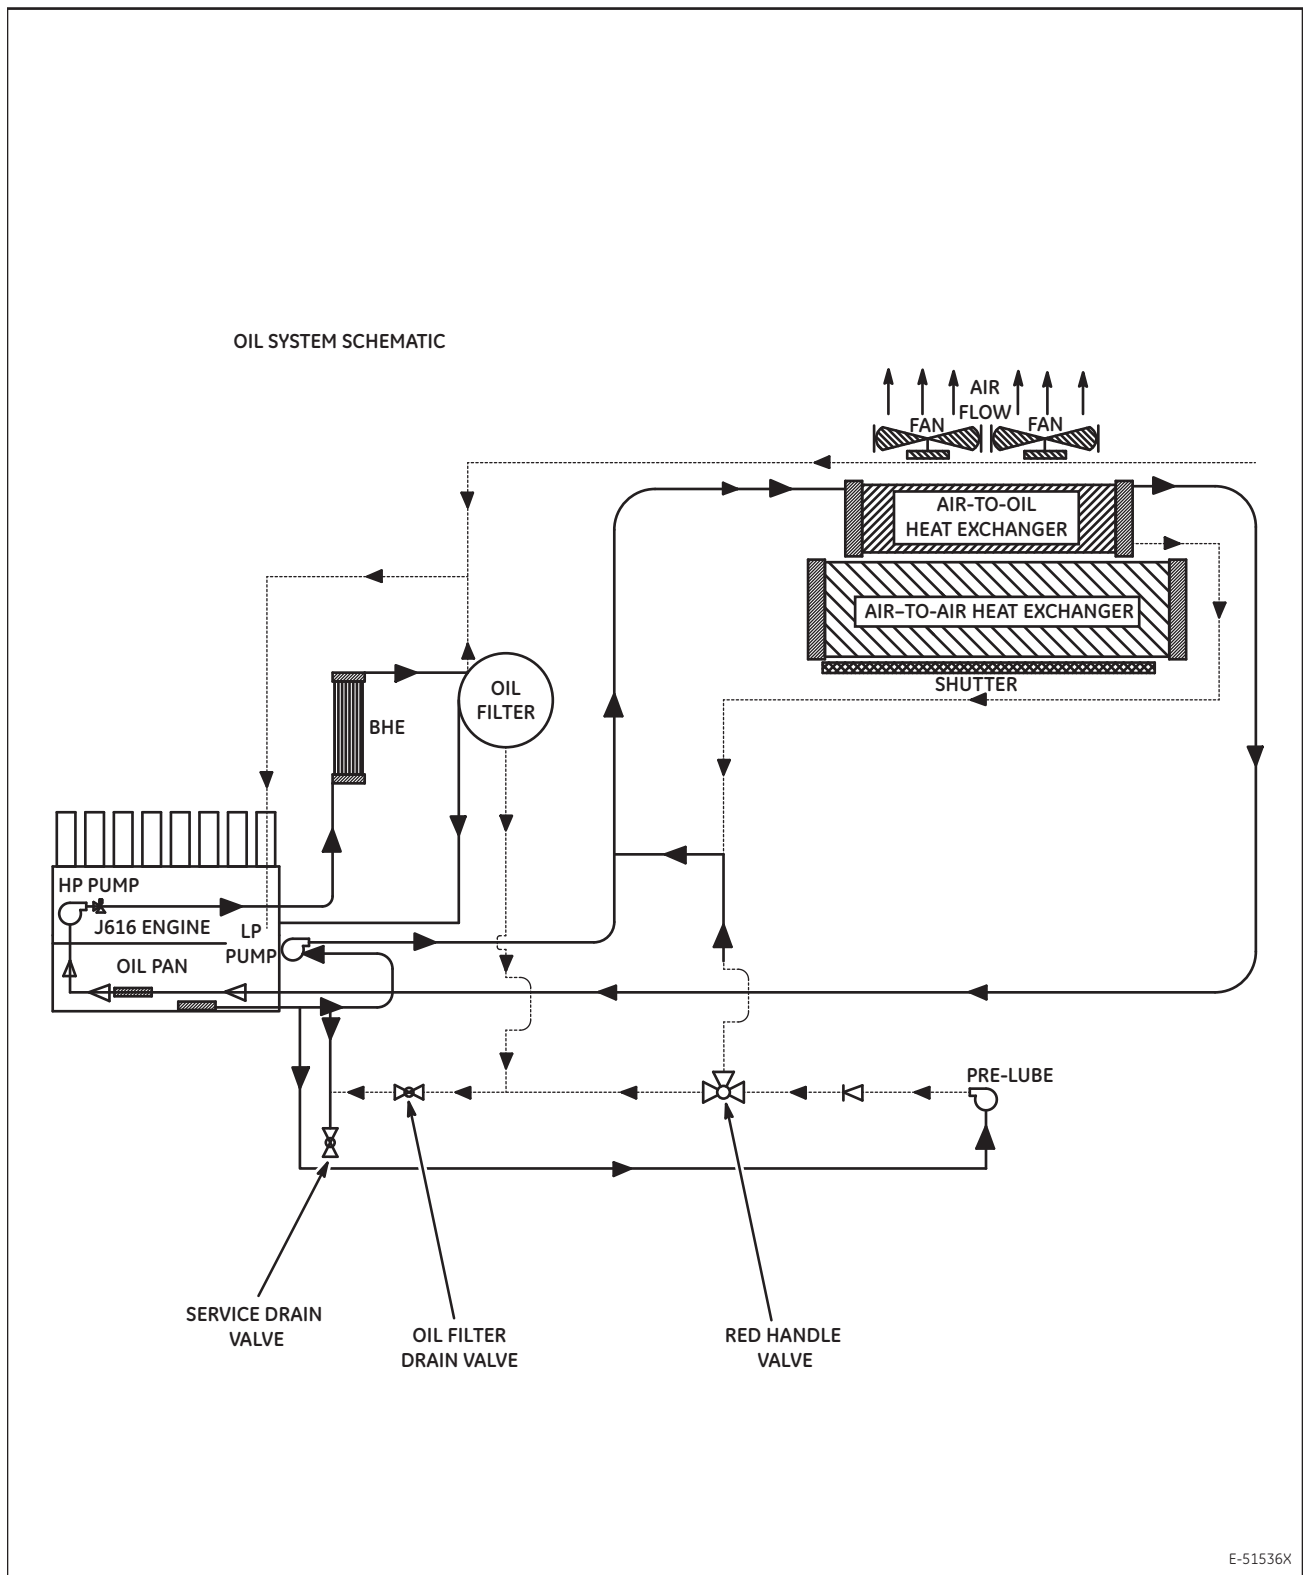
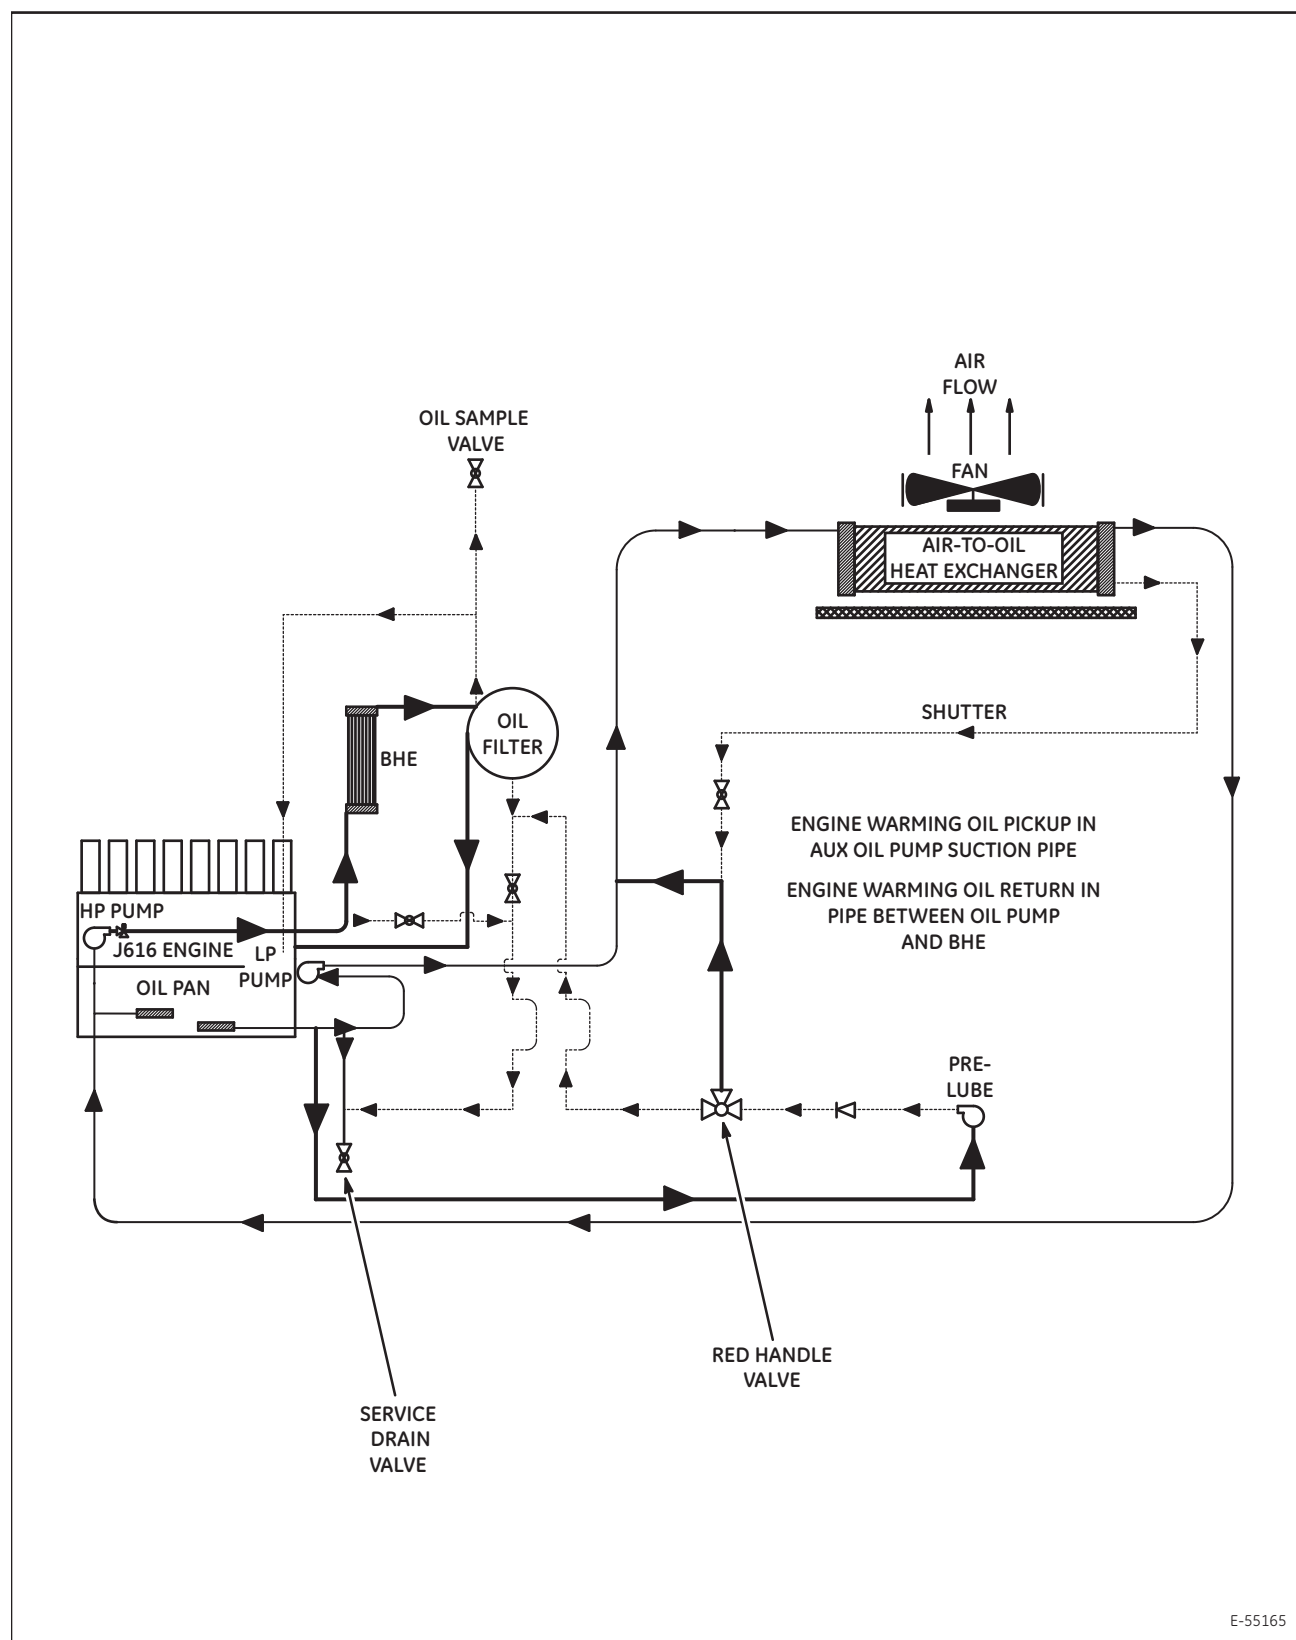

Figure 1. Lubricating Oil System for PH37ACmi
Figure 2. Lubricating Oil System for PH37ACal
The engine lubricating oil system consists of two circuits, the main circuit and the cooling loop (Figure 1 or Figure 2). In the main circuit, the lubricating oil High Pressure (HP) pump draws oil from the oil sump through a small oil to water heat exchanger, then through the lube oil filters where it then returns the oil to the engine galley. In the cooling loop, the Low Pressure (LP) lubricating oil pump draws oil from the oil sump, through the air to oil heat exchanger then back to the oil sump. The major components are as follows: